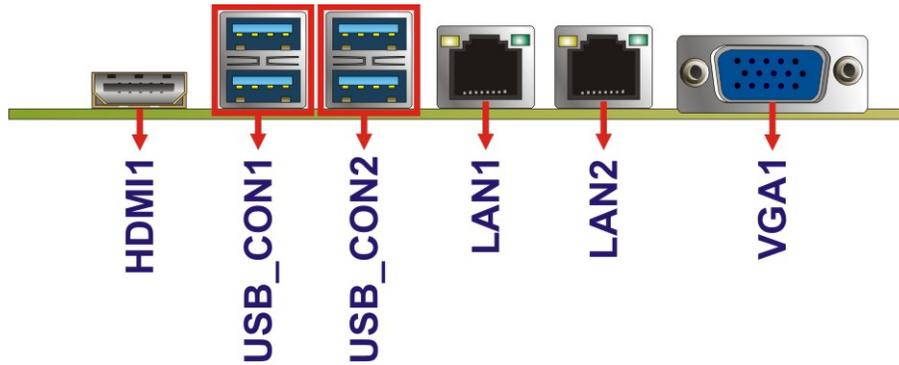

Figure 3-23: External Interface Connectors
- CN Location:** See Figure 3-23
- CN Location:** See **Figure 3-23**
CN Location:	See Figure 3-23